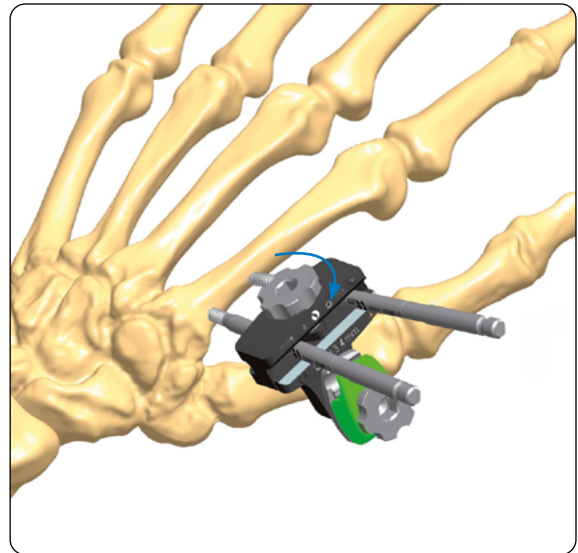

Fig. 9
- Close the clamp cover by hand to secure the screws (**Fig. 9**)